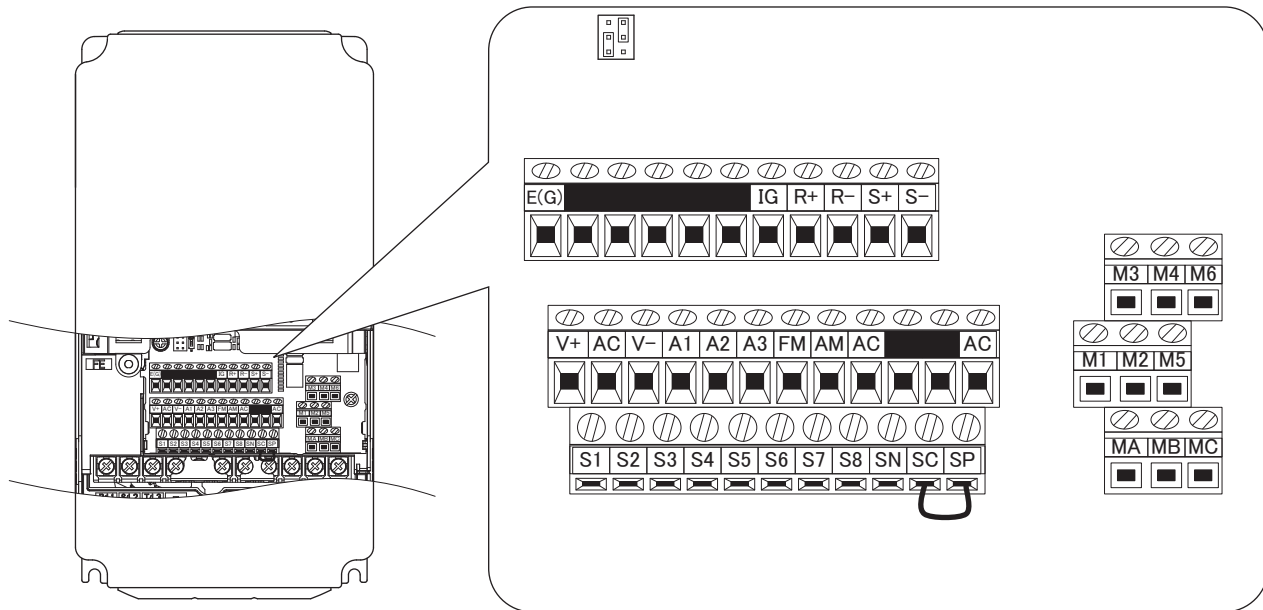

Figure C.7 Terminal Connections for Communication Self-Diagnostics
4. With the power off, wire the regenerative unit as shown in Figure C.7, connecting terminals R+ and S+, R- and S-, and S6 and SC.